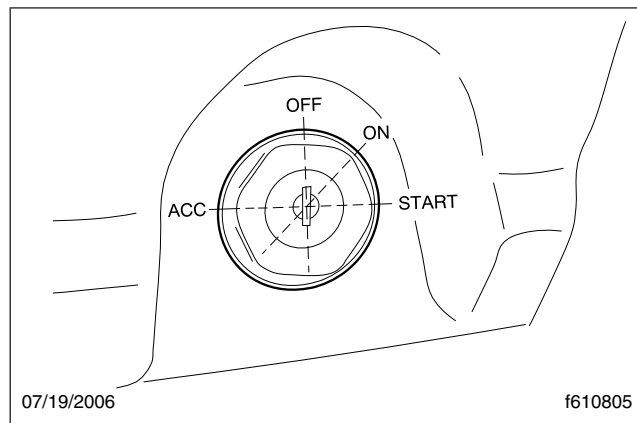

Fig. 10.1, Ignition Switch
4. Turn the ignition switch to the ON position and allow the gauge sweep to complete. See **Fig. 10.1**. The audible alert will sound for approximately four seconds.